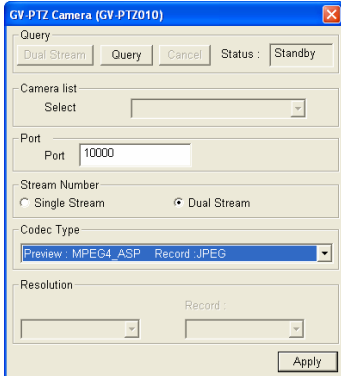

Figure 7-4
4. The GV-System will automatically query for the IP camera, and the status will be indicated as "Standby". If not, modify the HTTP port (Figure 7-3) and streaming port (Figure 7-4) to match those of the IP camera, and click the **Query** button to detect the IP camera again.